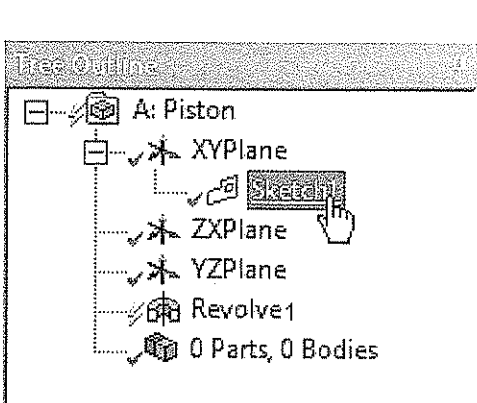

Figure 4-37 Selecting the sketch from the Tree Outline
1. Choose the **Revolve** tool in the **Features** toolbar; the **Modeling** mode is invoked and **Revolve1** is added to the Tree Outline, refer to Figure 4-37. Also, the options corresponding to the **Revolve1** node are displayed in the **Details View** window.
3. Select the **Sketch1** node under the **XYPlane** in the Tree Outline, as shown in Figure 4-37.